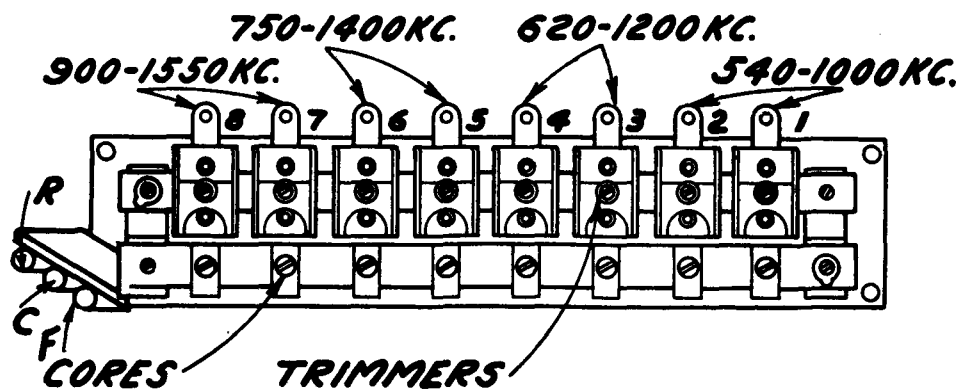

Fig. 5
(1) Turn "Range selector" to "A" position and manually tune in the first station, say 560 k.c.
(2) Turn "Range selector" to "P.B." position, press button No. 1 located first from left on front panel.
(3) Referring to Figure 5, adjust core and padder No. 1 for a peak at 560 k.c. This adjustment can be made with the assistance of the "Magic Eye".
(4) Proceed to adjust the other seven stations in order of frequency, as outlined above.